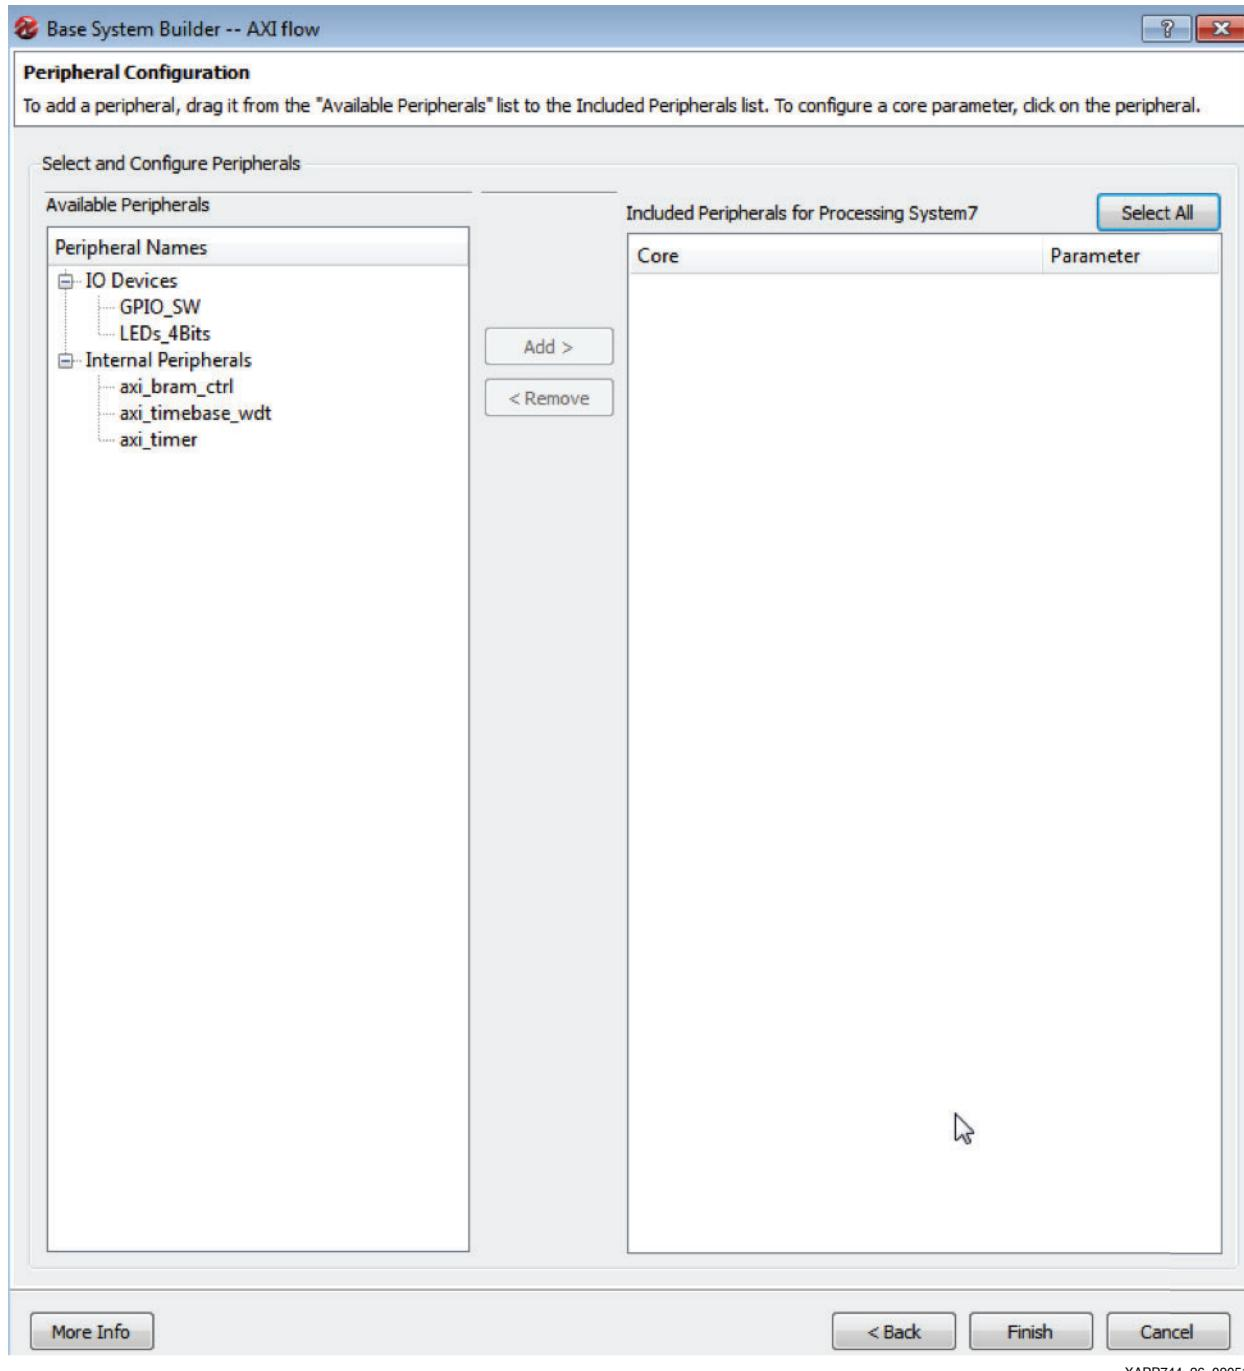

Figure 26: Peripheral Configuration Page of Base System Builder Wizard
8. The Peripheral Configuration page appears as shown in Figure 26. Click **Finish**.